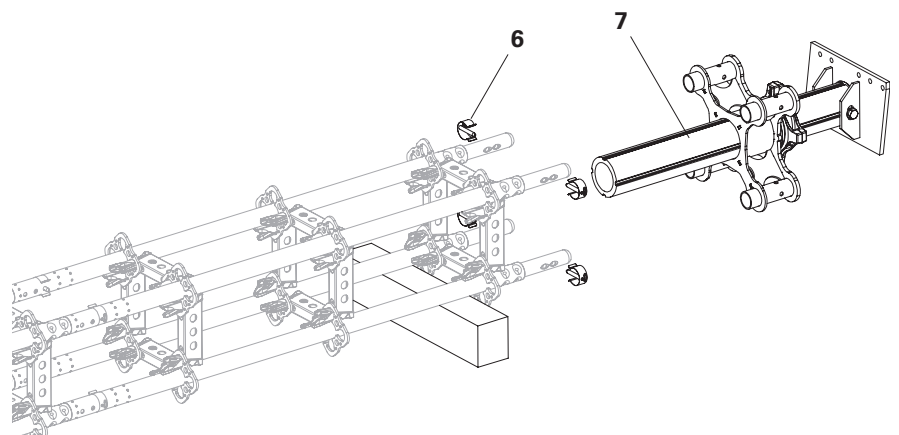

Fig. A2.03
4. Fit the Head Spindle TR 110-80/55 (7) onto the pins of the standards and tightly connect using the locking pins (6). (Fig. A2.03)